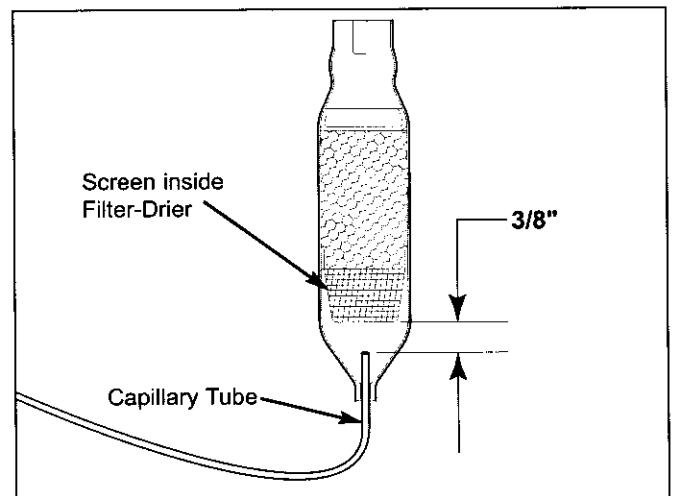

Figure 7-48. Filter-Drier Cut-Away View
**NOTE:** When installing the replacement filter-drier, insert the capillary tube until it touches the screen, then pull the capillary tube approximately 3/8" away from the screen before brazing. (See Figure 7-48) When installing a new filter-drier, be sure to thoroughly clean the tubing before brazing.